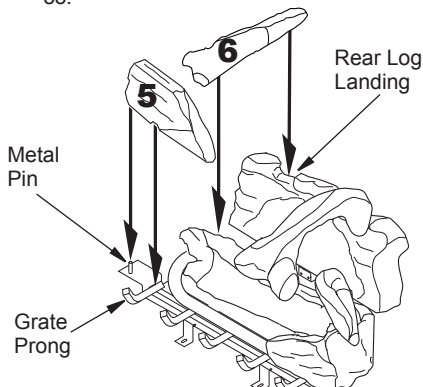

Figure 33 - Installing Logs No. 5 and No. 6
5. Place log #5 (base log) onto front left part of grate making sure notch and hole fit over metal pin and prong of grate. See Figure 33.
6. Place log #6 (left log) onto rear log landing and resting it on top of front log. See Figure 33.